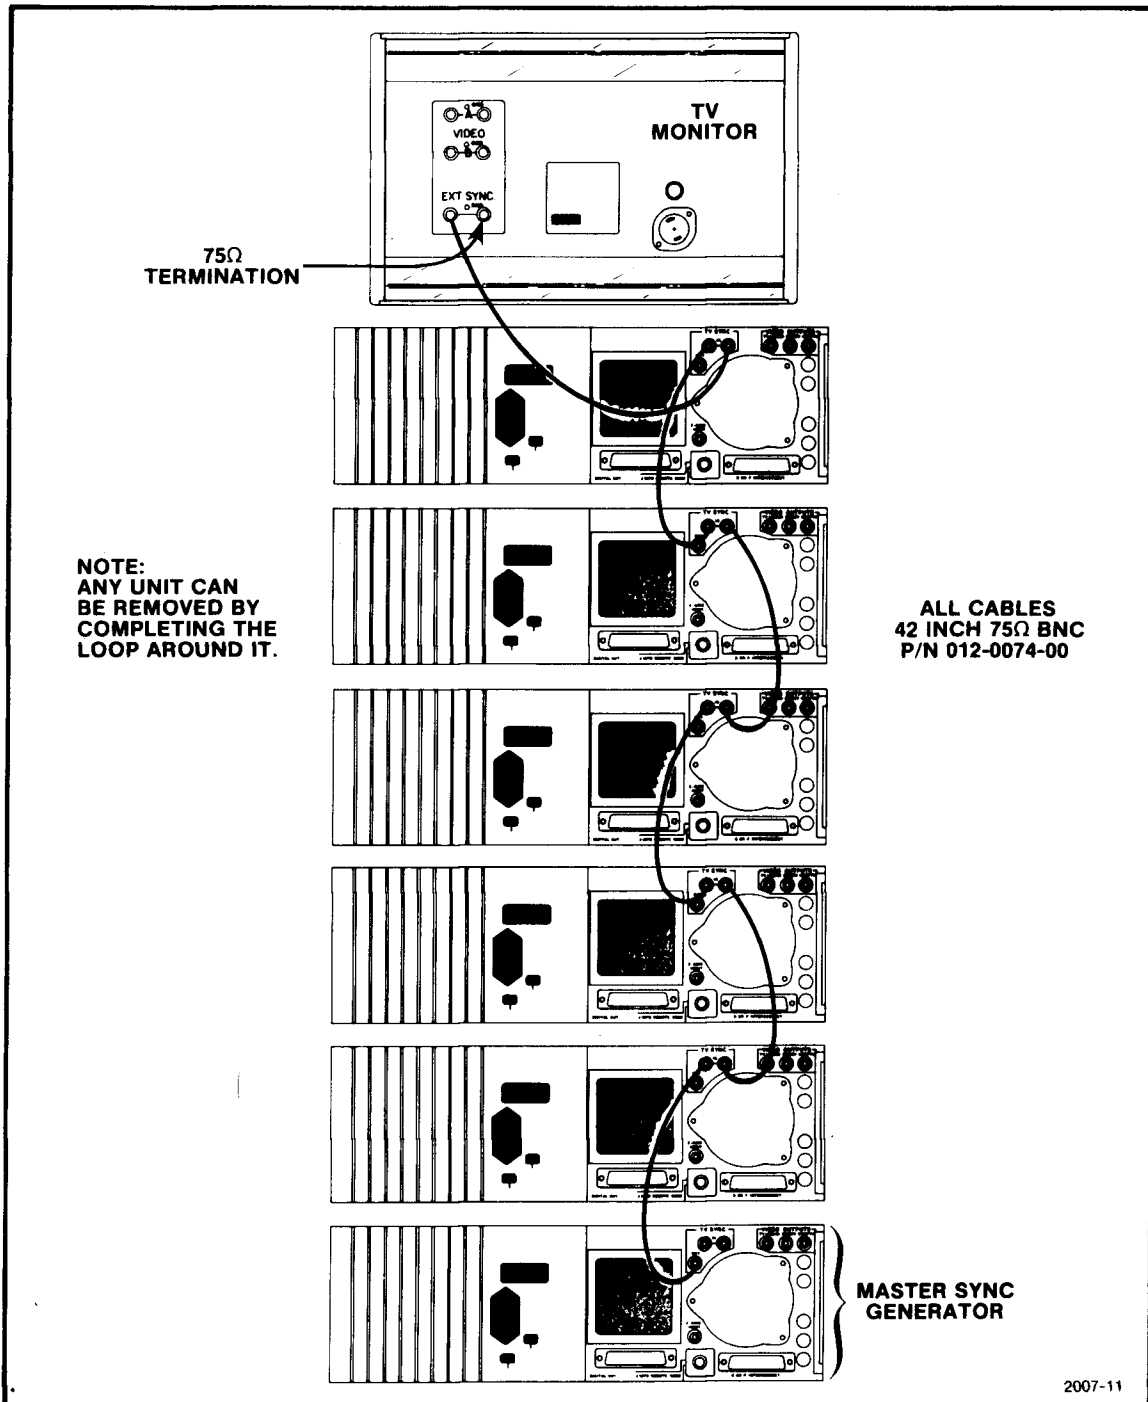
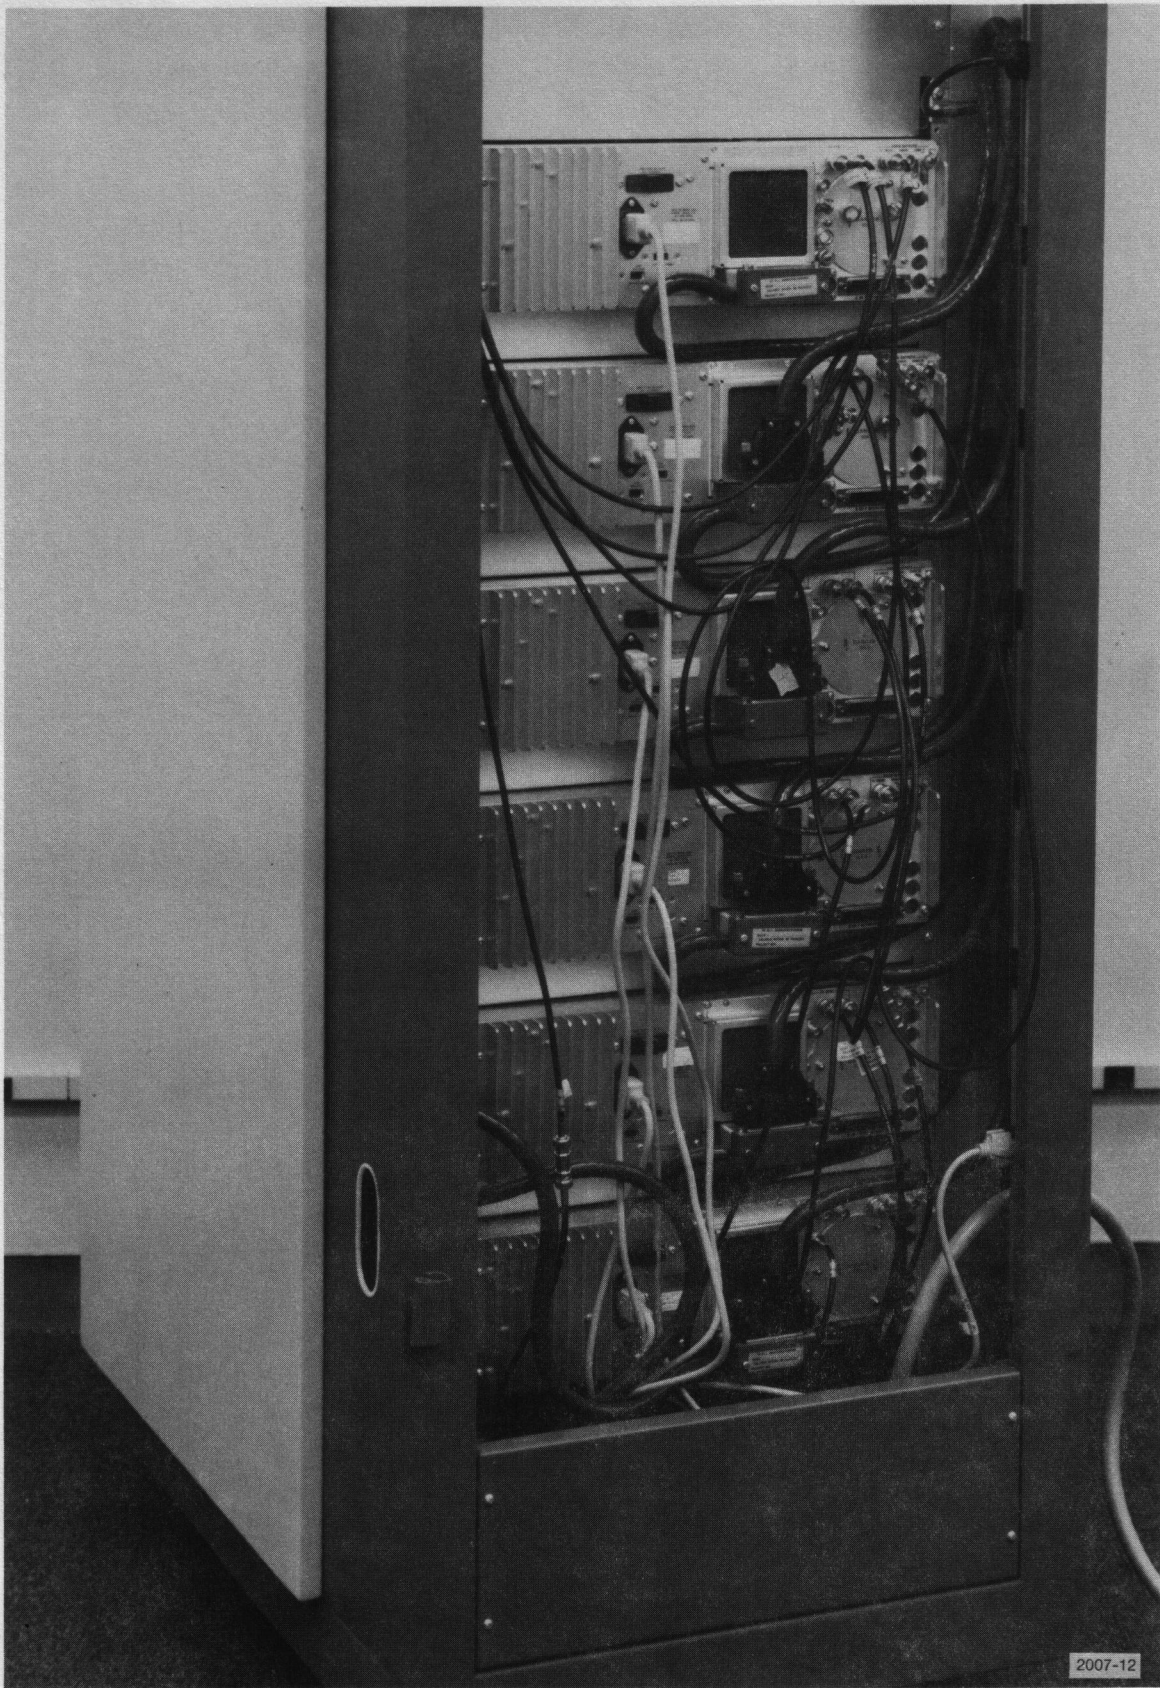

Fig. 2-11. WP2052 sync cabling.
Fig. 2-12. Cable dress for WP2052.
7. Refer to Fig. 2-11 to hook up the SYNC cables. One R7912 must be used as a master sync generator as shown. Connect all other R7912's and the TV Monitor in a chain to the TV SYNC OUT connector on the master sync generator. Be sure to include the 75 ohm termination resistors where shown. Dress the cables as shown in Fig. 2-12.